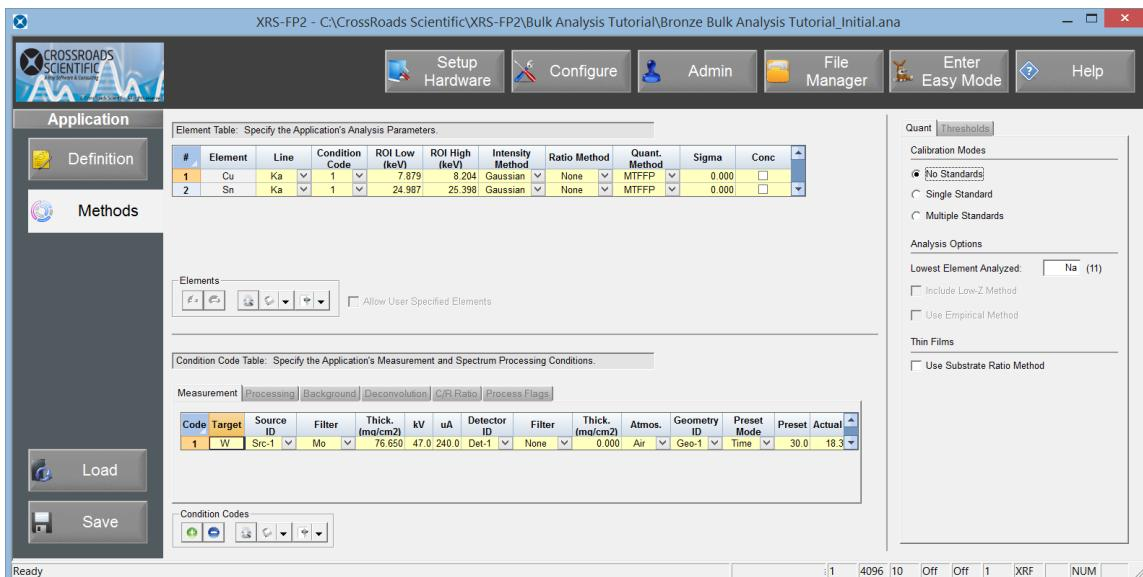

Figure 7. XRS-FP2 Application Workflow – Calibration Mode. The quant method is set to standardless (i.e. no standards).
- Set the application quant method (calibration mode). In the R-hand panel under the “Quant” tab select the radio button for “**No Standards**” (i.e. standardless). Figure 7 below.